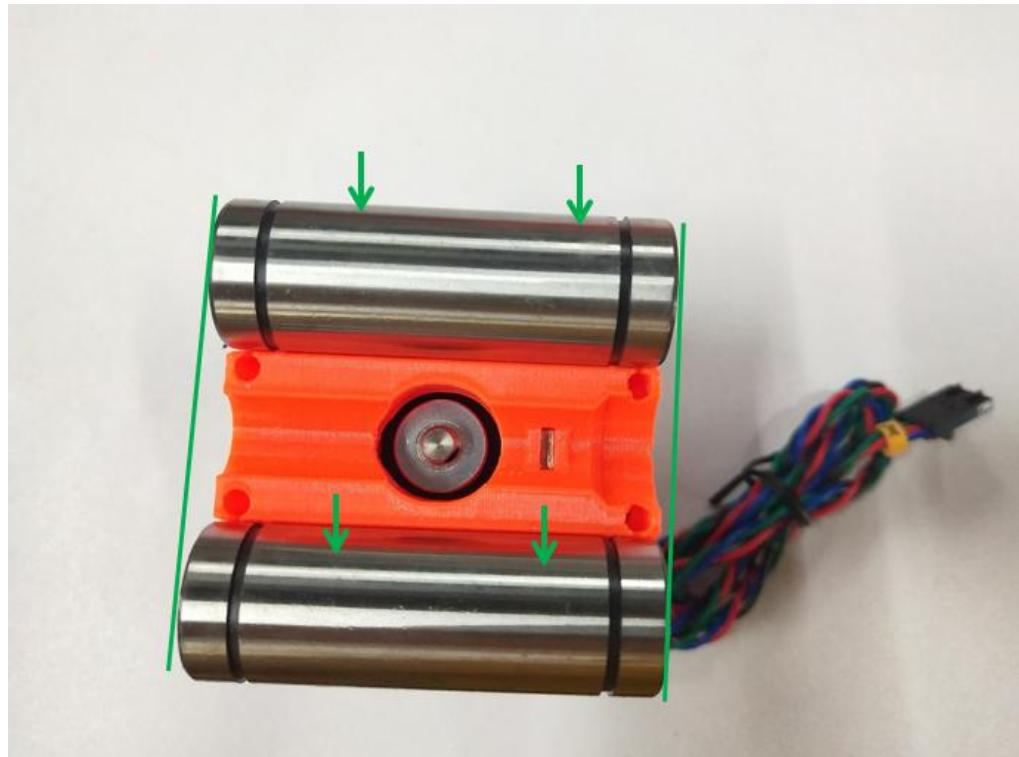

Figure 2.7.4
- C: Install the two linear bearings into the two grooves on the MINI-z-carriage-front. It is required that both ends of the linear bearing must be flush with the two end faces of the print, as shown in Figure 2.7.4.